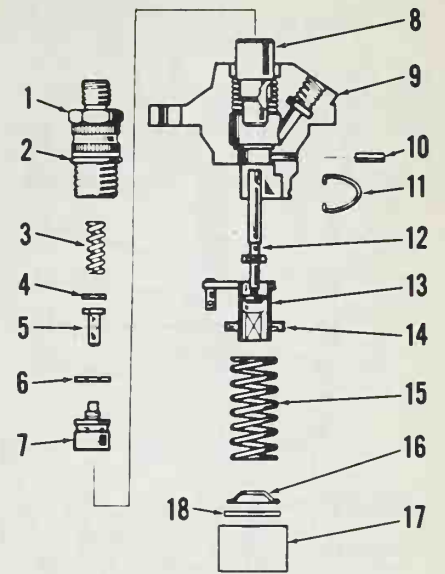
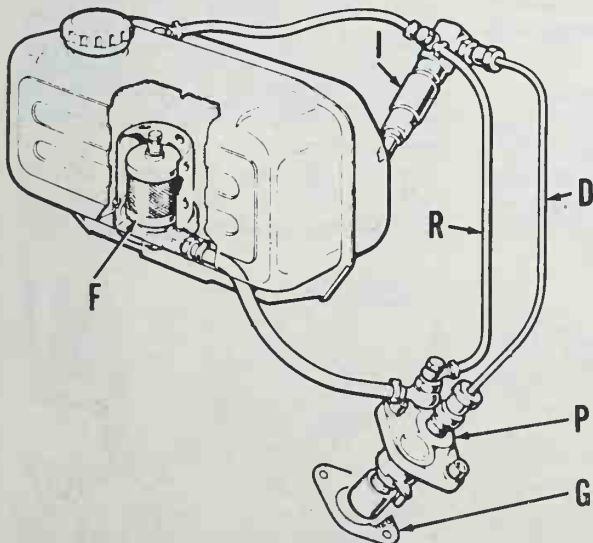
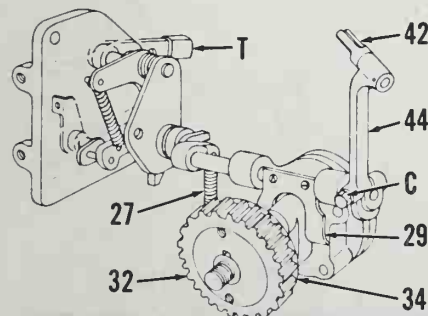

Fig. L2-5 - View of fuel injection pump.
Fig. L2-4 - Diagram of fuel circuit.
Fig. L2-11 - Diagram of governor assembly. Refer to text for operation and adjustment.
FUEL FILTER. The fuel filter is located inside the fuel tank as shown in Fig. L2-4. Renew fuel filter after every 300 hours of operation or sooner if required.
BTDC and is adjusted using shim gaskets (G—Fig. L2-4) between pump body and mounting surface on crankcase. To check injection pump timing, unscrew delivery line (D) fitting from delivery union (1—Fig. L2-5). Unscrew delivery valve holder and remove spring (3), washer (4) and valve (5), then screw delivery valve holder (1) into pump body.
Move throttle control lever to full speed position. Rotate engine in normal direction (counterclockwise at pto) so piston is on compression stroke. Note fuel in delivery valve holder will spill out of union. Stop engine rotation at moment fuel ceases to flow out. Timing dot (R-Fig. L2-6) on fan plate should align with injection timing dot (I) on fan shroud. To advance injection timing, remove shim gaskets (G-Fig. L2-4); install shim gaskets to retard injection timing. Reinstall removed pump components after checking injection timing. Tighten injection pump retaining screws to 29 N·m.
Refer to Fig. L2-5 for view of injection pump. Disassembly and reassembly is evident after inspection of pump and referral to Fig. L2-5. Note that slot in barrel (8) must align with pin (10) and helix in plunger (12) must face pin (10).
When installing injection pump, place shim gaskets (G - Fig. L2-4) under pump then engage control sleeve (13 - Fig. L2-5) pin with governor arm (42 - Fig. L2-11). Tighten pump retaining screws to 29.4 N·m. Loosen clamp screw (C) then move throttle lever (T) to full throttle. Push governor lever (44) in until it stops thus moving injection pump control sleeve to maximum delivery. Tighten clamp screw (C).
Both models are equipped with a flyball centrifugal type governor which is attached to the back of the oil pump drive gear (32 - Fig. L2-11 or L2-13). The oil pump drive gear (32) is driven by the crankshaft and rotates governor flyball assembly (34). Flyball housing (34) is interlocked with fork (29). As the flyballs move, the shaft attached to fork (29) is rotated thereby moving governor lever (44) and arm (42). Arm (42) mates with the pin on the injection pump control sleeve (13 - Fig. L2-5) to regulate fuel flow to cylinder. Throttle lever (T - Fig. L2-11) operates through governor spring (27) to control engine speed.